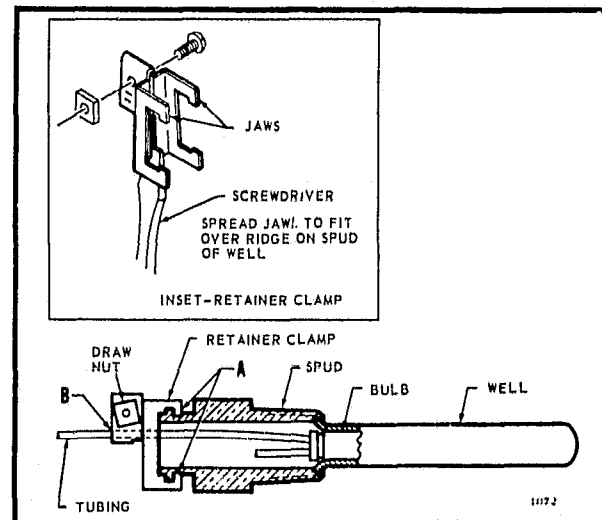
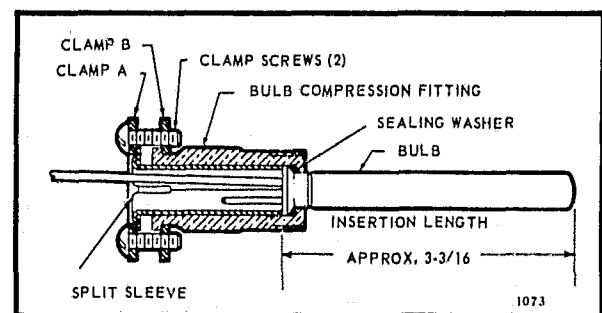
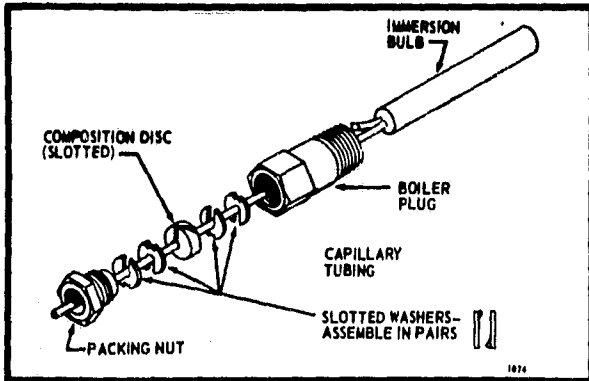

FIG. 5—IMMERSION WELL FITTING.
FIG. 6—BULB COMPRESSION FITTING. USE WITH MODEL L4008A,B,E,J, OR L6008A.
FIG. 7—CAPILLARY COMPRESSION FITTING. USE WITH MODEL L4008C,D,K, OR L6008C,E.
Bulb Compression Fittings (see Fig. 6) —
Capillary Compression Fittings (see Fig. 7) —
The remote temperature-sensing bulb can either be installed in an immersion well (Fig. 5) that extends into the boiler or tank, or it can be directly immersed in the liquid. For installations not using a well, secure the remote bulb with a bulb compression fitting (Fig. 6), or capillary compression fitting (Fig. 7).
Well, bulb compression fitting or capillary compression fitting must be ordered separately. Sizes available: 1/2 in., 3/4 in. NPT spud. Well, if used, must fit sensing bulb snugly for good thermal response. Insert bulb until it rests against bottom of well, then hold it there while tightening the tubing clamp. (See Fig. 5.)
4. Place composition disc and 4 slotted brass washers on tubing in the order shown in Fig. 7. Turn brass washers so that slots are 180 degrees apart.